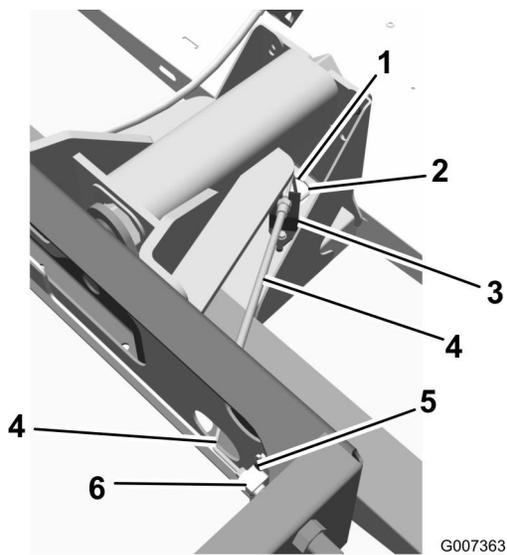

Figure 15
- 11. Install the joining brake hose (104-6795) to the (87-3560) “Tee”, and then connect the hose end to the (104-6794) center brake tube (Figure 15). Insert the hose end into the hose bracket and retain with the clip (104-7092).